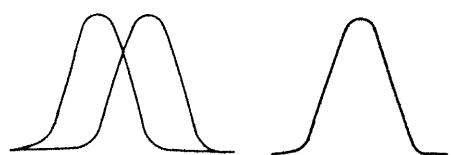

Fig. 5-3
(H) It appears so, adjust two-fold waveform to a single waveform by "PHASE" knob as illustrated in Fig. 5-3.